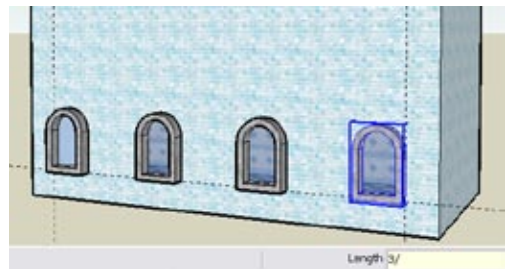

Figure 1-27
- Type 3/ and press Enter (don't forget the forward slash symbol after the number). This gives you four windows (three copies plus the original), with three equal spaces in between (Figure 1-27).